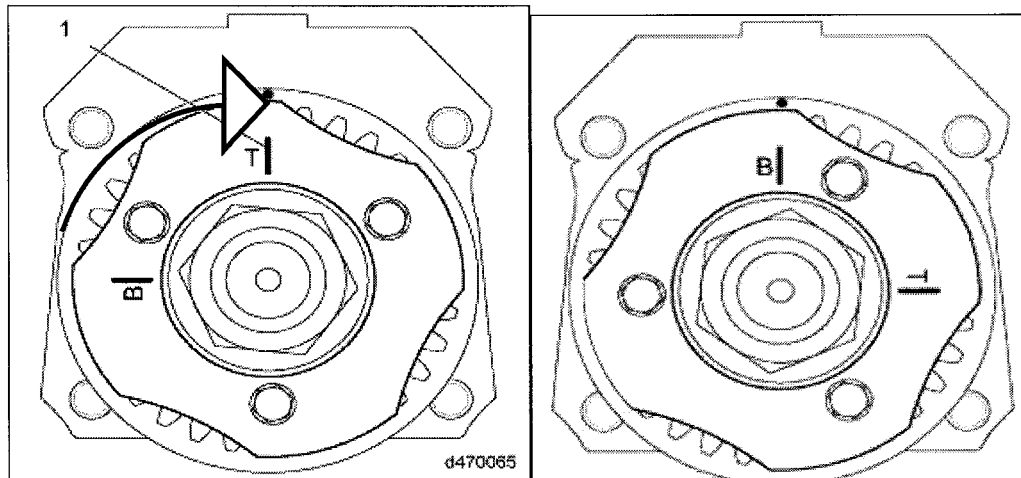

Figure 14 – High Pressure Fuel Pump Timing Plate
22. Rotate the fuel pump gear 90 degrees clockwise until the “B” is aimed at the 12 o’clock position and repeat steps 8 through 20 on the rear pumping element closest to the gear. See Figure 14.